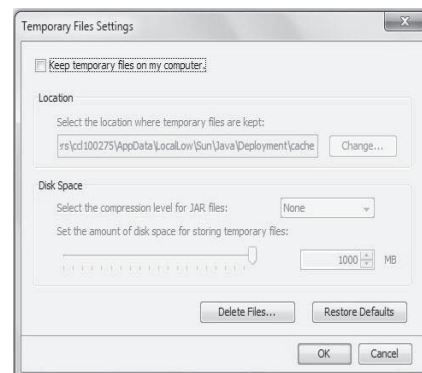

Fig. 92 — Temporary File Settings
- Temporary internet files: In the Java Control Panel, click Settings in the Temporary Internet Files section. Be sure the setting Keep temporary files on my computer is unchecked (clear). See Fig. 92.